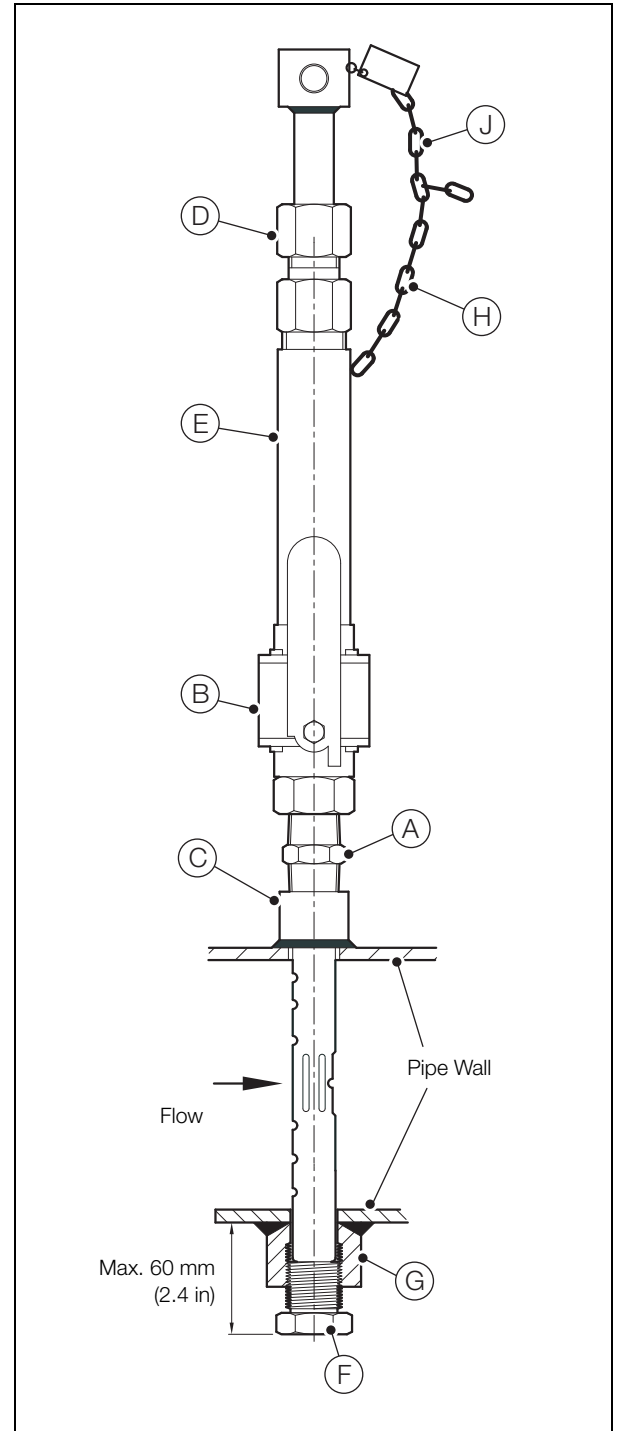

Fig. 2.11 Model L702 Installation
8. Referring to Fig. 2.11:
- a. Apply suitable sealant to the close nipple (A) and isolation valve (B) and fit them to the threaded fitting (C). Tighten securely.
- b. Ensure packing material is in place in packing gland (D).
- c. Fit pressure chamber (E), complete with packing gland (D), to isolation valve (B), using appropriate sealants where necessary.
- d. Fully open isolation valve (B) and insert the Torbar through the packing gland, isolation valve and process pipe until the tip exits at the opposite fitting.
- e. Apply appropriate sealant to the threads of support plug (F).
- f. Screw support plug (F) into threaded fitting (G) and tighten, ensuring that it contacts the Torbar.